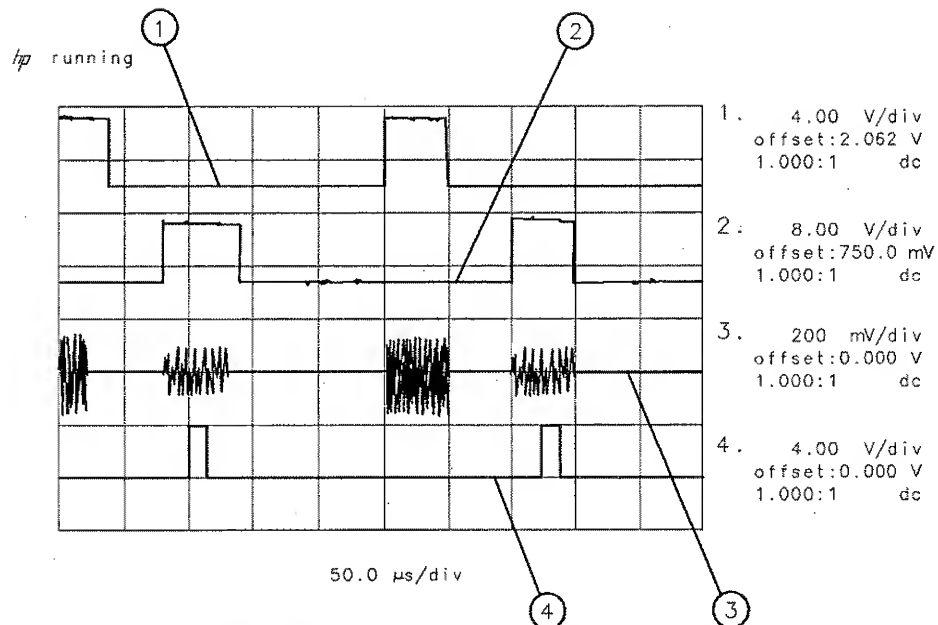

Figure 4-26. Placing the Gate Output During the Second Signal
9. To view the second signal, change the gate delay so that the gate output is under the second signal. Since the second signal had a signal delay of approximately $85 \mu\text{s}$, we set the gate delay to $85 \mu\text{s}$ plus the pulse width/2, or $110 \mu\text{s}$. Press **[SWEEP]**, **Gate Control**, **GATE DELAY** 110 **[μs]** to set the gate delay to $110 \mu\text{s}$. Using an oscilloscope can be helpful in placing the gate output during the pulsed signal. See Figure 4-26.
Item	Description of Items in Figure 4-26